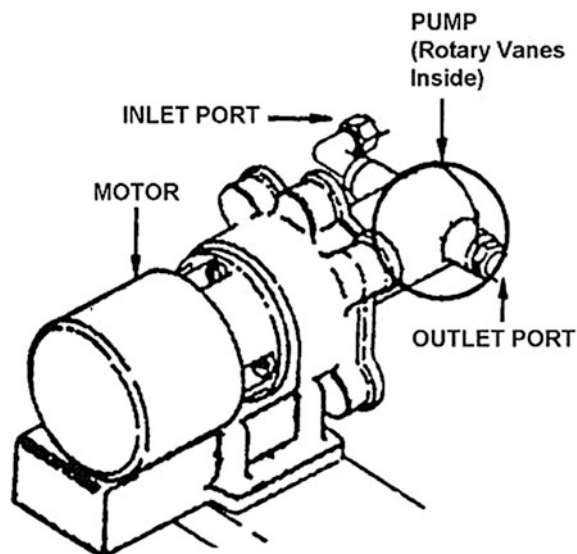

Figure 4-3. Rotary vane scavenge pump.
This system was designed to remove the fuel from the aerial refueling manifold after an air refueling mission or operational checkout. It consists of a 1-inch manifold drain valve (Q) which prevents gravity flow of fuel to the drain during aerial refueling and a drain pump (R) which scavenges residual fuel from the manifold and routes it to the left or right inboard main tank through a check valve. The drain pump is a rotary-vane type that has positive displacement. Figure 4-3 shows a typical rotary vane pump. The pump consists of an electric motor and a shaft with rotary (circular) vanes at the end. A rotary vane pump is said to have positive displacement because its input is equal to its output. It does not pressurize a manifold like a centrifugal pump; however, the rotary vanes move fuel from the inlet to the outlet (fig. 4-3). The motor on this type of pump is not fuel resistant; therefore, it will never be submersed in fuel the way a centrifugal pump is.